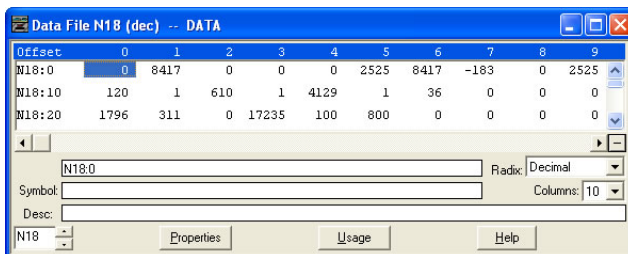

Figure 124: Monitoring the Data Being Read from the Inverter
- a) To view the registers being read from the interface card, double-click the data file N18 under "Data Files" in the controller organizer view. 25 register values starting at register #2050 are being continuously read from the interface card and placed in the 25 sequential offsets of N18 starting at N18:1. Refer to Figure 124. We can see that N18:9 (register 2058 / output frequency) has a value of 2525 (25.25Hz), N18:12 (register 2061 / output voltage) has a value of 610 (61.0V), etc.